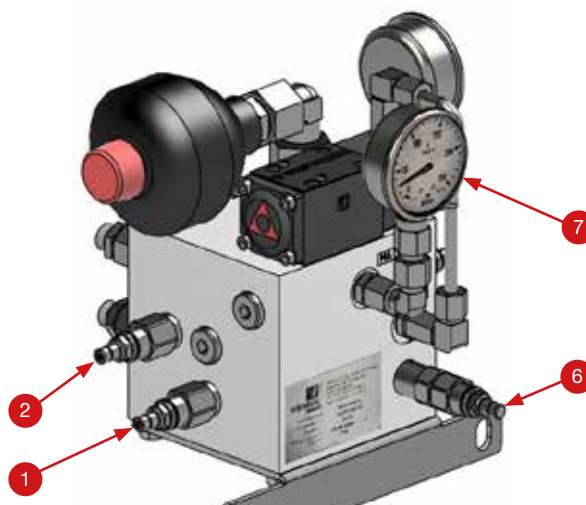

Fig. 73. Hydraulic block 1 circuit - rear view
4. Set valve 2 to a pressure of 120 to 180 bar. The set pressure is displayed on the pressure gauge (Fig. 73, item 7).